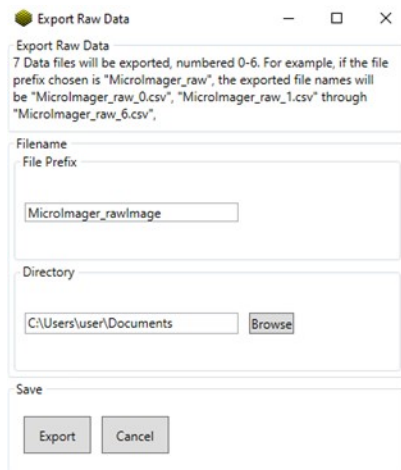

Fig. 13. Exporting Raw Data as 7 different “.csv” format files
21. **Export Rad Data**: The data will be saved in the 7 different “.csv” format files (Microsoft Excel readable) numbered from 0-6 corresponding to 7 different images of a dataset. For this go to the **File** tab → **Export Raw Data** → if needed choose the File Prefix and browse the directory → press **Export** as shown in Fig. 13.